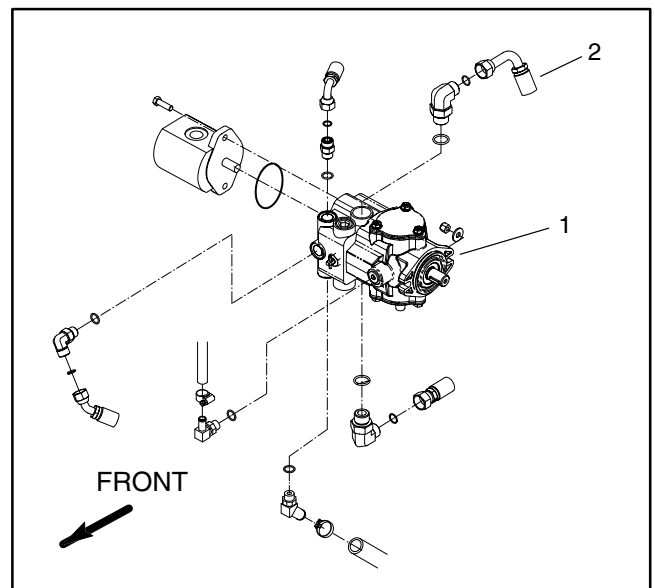

Figure 20
10. Clean hose fitting and disconnect hose from the elbow connection on the top of the traction pump (Fig. 20).